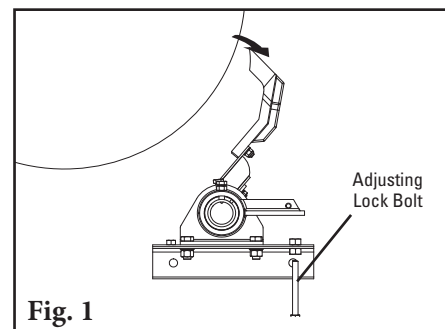

Fig. 1
**For adjusting bolt tensioners.** Loosen the adjusting bolt lock nuts and lower the adjusting bolts 25 mm (1") to allow the tips to move away from the belt (Fig. 1).